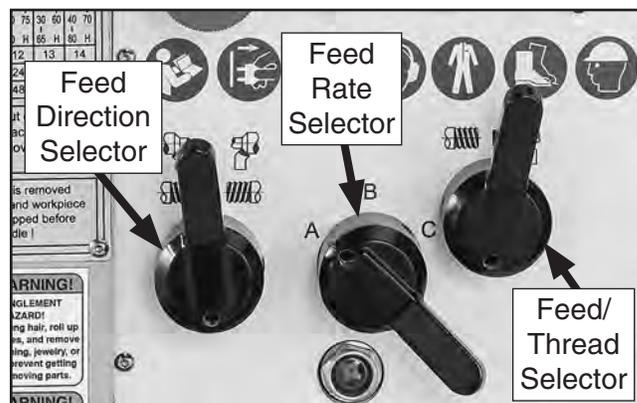

Figure 78. Feed direction and feed/thread selector settings for 22 TPI.
1. Locate **22 TPI** on inch threading chart shown in **Figure 78**.
3. On inch thread chart, locate correct position of feed rate selector. Shift lever to position **A**, as shown in **Figure 78**.
4. Position feed direction selector to left, and feed/thread selector to right, as shown in **Figure 78**.